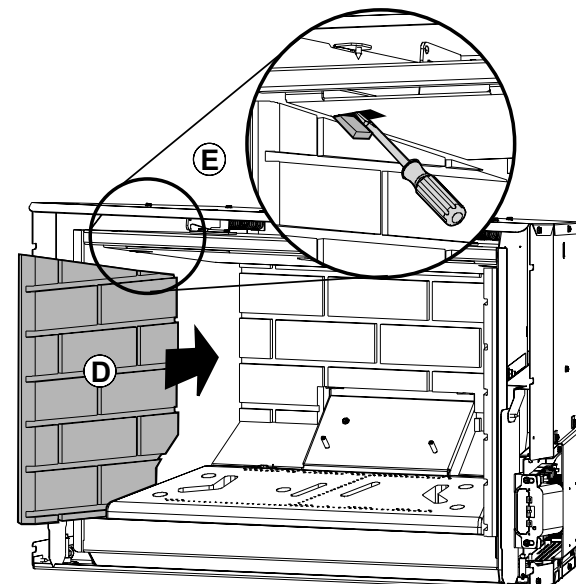

Fig. 7.14
3. Slide each Side Panel (D) into position flat against the firebox side, resting the bottom edge on the support shelf or floor as appropriate. Fig. 7.14.